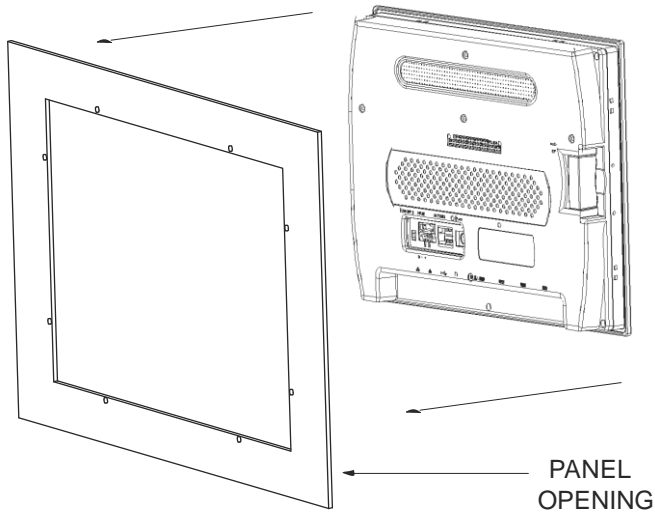

Figure 2.9: Panel Mounting_2
Step 2: Install the 2500-VP15 on the panel opening. (Figure 2.9)